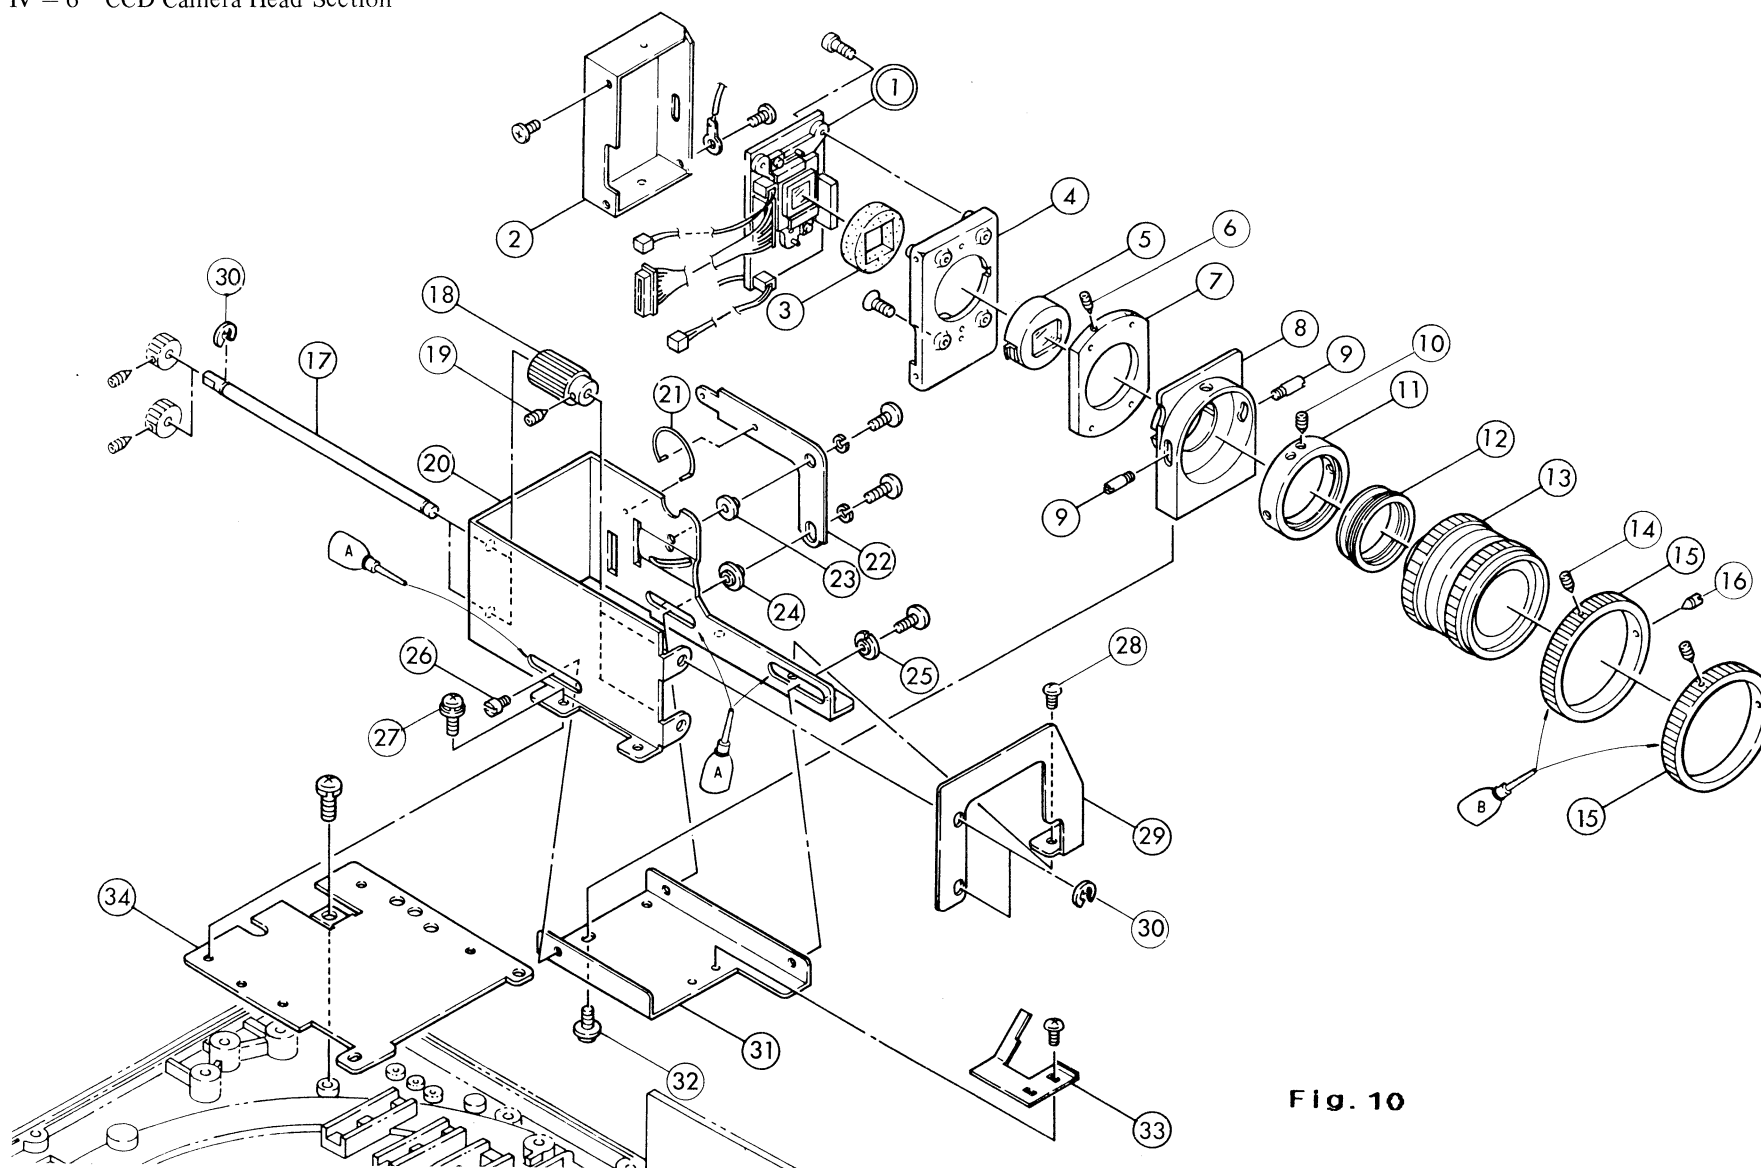

Fig. 10
IV — 6 CCD Camera Head Section (See Fig. 10)
2. Remove ⑯ and ㉕, and loosen ⑲ to pull out ⑰ before removing ⑱.
3. Unscrew ㉖ to remove the assy parts ① ~ ⑬. Carry out further disassembly of ㉗ assy parts referring to Fig. 10.
4. Unscrew ⑭ and ⑯ to remove ⑮.
5. Carry out further disassembly in ① ~ ⑦ and ⑧ ~ ⑪ assy parts.
* Focus adjustment (See Fig. 10)
1. Unscrew ⑭, ⑯ and ⑩ × 2 pcs. (the ones at lateral and vertical positions can be removed).
5. After focusing, fix with ⑩ × 2 pcs.
* Adjustment of played-back picture inclination (See Fig. 10)
2. Carry out adjustment by turning ⑦ and ⑧ so that the horizontal (cross) line of test mount and the horizontal line passing through the center of picture are parallel to each other.
3. Fix with ⑥ after confirming that the two lines are parallel.
4. Coincide the test mount horizontal line with the horizontal line passing through the center of picture by turning ②⑤, and then fix with screw.
5. Coincide the test mount vertical line with the vertical line passing through the center of picture by loosening ②⑦ and ②⑧ and moving the whole camera unit left and right, then fix.